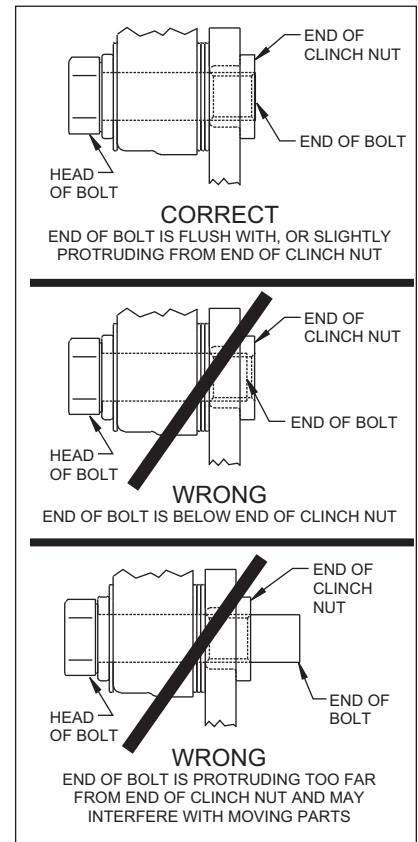

Figure 4.
- Install the dust cap (16) onto the hub (7). Friction created by the o-ring (17) on the dust cap (16) keeps it from unscrewing. The O.D. of the existing spindle washer may be larger than the I.D. of the dust cap (16) which may allow the washer to contact the dust cap (16). Use the spindle washer (16) supplied with the kit instead of the stock washer.
- NOTE:** Please reference the caution statement at the beginning of the assembly instructions. Mount the caliper (18) onto the caliper bracket (1) using two bolts (20), two washers (19) and four flat washers (21). Finger tighten. View the rotor (11) through the top of the caliper (18). The rotor (11) should be aligned in the center of the caliper (18). If not, loosen the two bolts (20) and adjust the caliper (18) by using 0.032 inch thick shim washers (22). The shim washers (22) should be placed between the caliper (18) and the flat washers (21). Finger tighten and recheck alignment. Add as many shim washers (22) as necessary to achieve the correct alignment. **NOTE:** The end of the bolt must be flush with or slightly protruding from the head of the clinch nut. See Figure 4. Place spare shims (22) between washer and caliper mounting ear to achieve the proper mounting fastener configuration. Always use the same amount of shims on both the top and bottom caliper mounting bolts (20). Loosen the two bolts (20) and apply red *Loctite*® 271 to bolt threads (20) and torque to 40 ft-lb. Safety wire the two bolts (20).